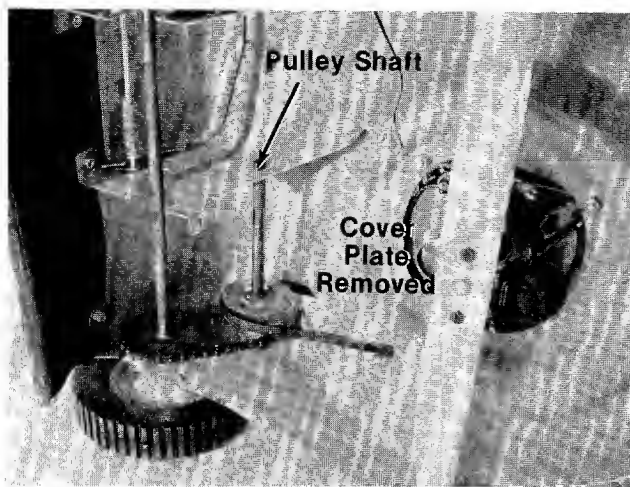

FIGURE 28.
8. Remove the cover plate. See figure 28.